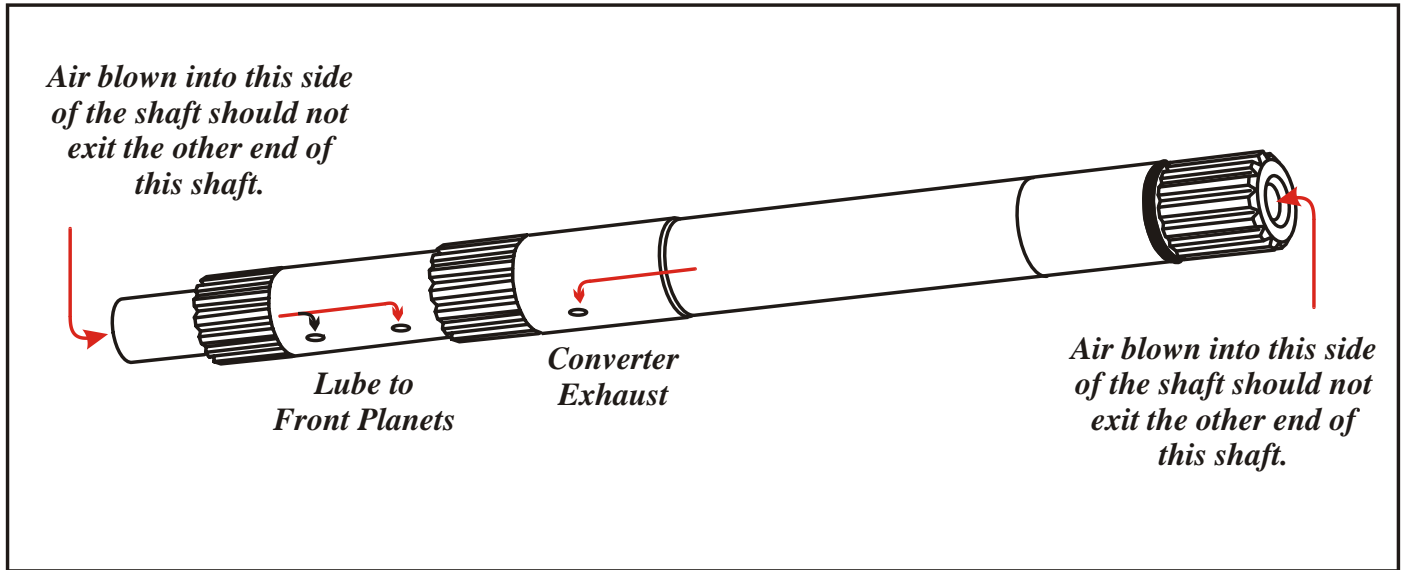

Figure 5
5. Inspect the turbine shaft for cracks and blow a small amount of compressed air approx. 30 psi. Into either end of the turbine shaft (*Refer to Figure 5*). **IMPORTANT:** No air must pass completely through the shaft from one end to the other. The shaft is blocked in the middle to separate converter release oil and lube oil. If this shaft leaks, all lube will be drained when lock-up is engaged.